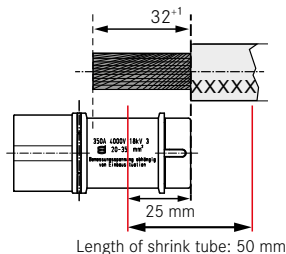

Figure IV-9: Shrink tube assembly over the cable and contact for Han® HC Modular 350
- ① Strip the cable according to Figure IV-9 and IV-10, so that the stripped stranded wire can be inserted fully into the contact.
- ② Terminate the cable to the torque specified for the wire gauge (see Table IV-2, p. 32 et seq.):
- ④ Pull the shrink tube as shown in Figure IV-9 and IV-10 (red lines!) over the contact and shrink.